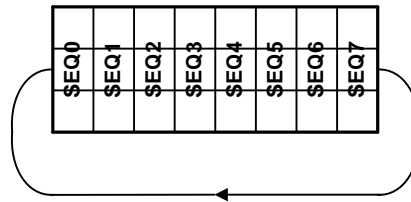
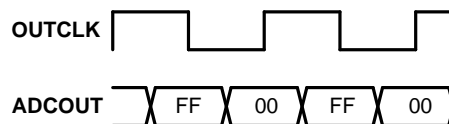

Figure 40. State Machine Generating Fixed Pattern Sequence
Figure 41. Fixed Pattern at ADC Output with Default SPI Register Values
For flexibility, the user can determine a fixed pattern with a depth of 8 patterns as shown in Figure 40. The user can fill these 8 sequences (SEQ0 – SEQ7) with an arbitrary pattern (PATTERN (000) – PATTERN (111)). See Register Map address 08h through 0Bh below for the details. The default register value for all SEQ0 through SEQ7 sequences is 010, which generates alternating 0xFF and 0x00 at the ADC output as shown in Figure 41. Note that since the ADC outputs odd bits on the falling edge of the OUTCLK and even bits on the rising edge, the resulting 16-bit output codes are 0xA000.